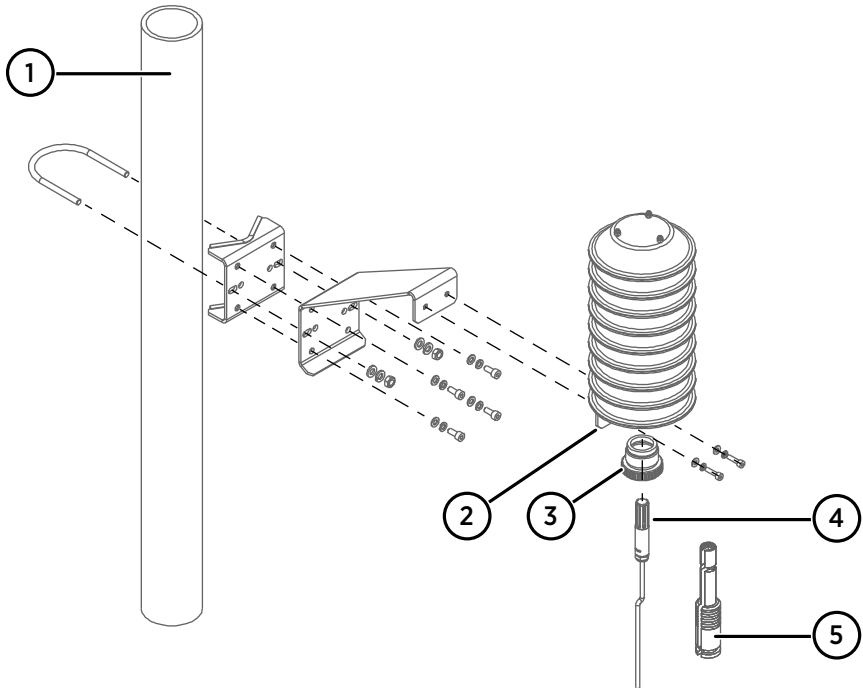

Figure 20 Mounting DTR502B on a pole mast
- ▶ 1. Mount the solar radiation shield in the measurement location using the provided mounting accessories, screws, and washers. You can mount the radiation shield to a pole mast as shown in Figure 20 \(page 39\), or to a horizontal beam directly from its support plate.